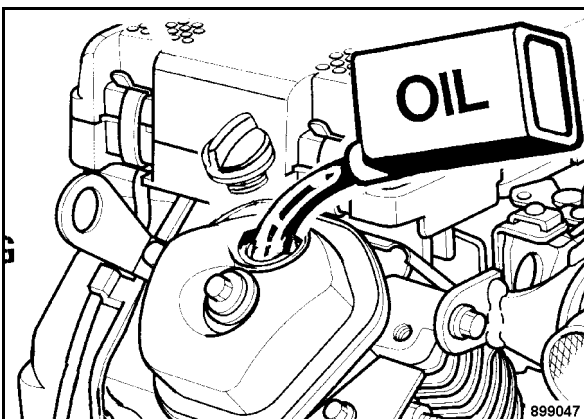

Fig. 77
- Fill in new engine oil (Fig. 77).